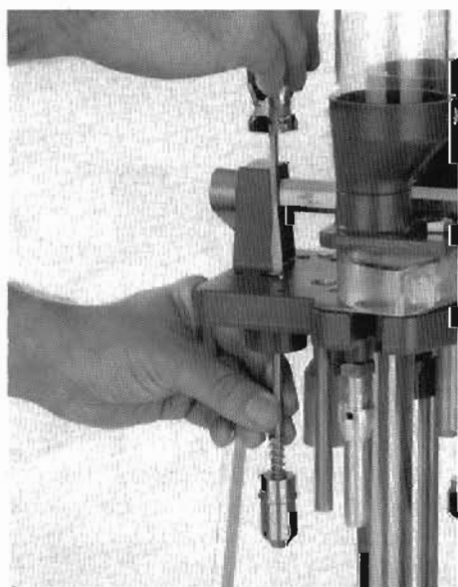

Fig. 43
**Figure 43** - Remove the original depriming rod, and set aside the rod and the ejector spring, as they will no longer be needed. Fit the new depriming rod into the diehead and secure with the mounting screw from above the die head.